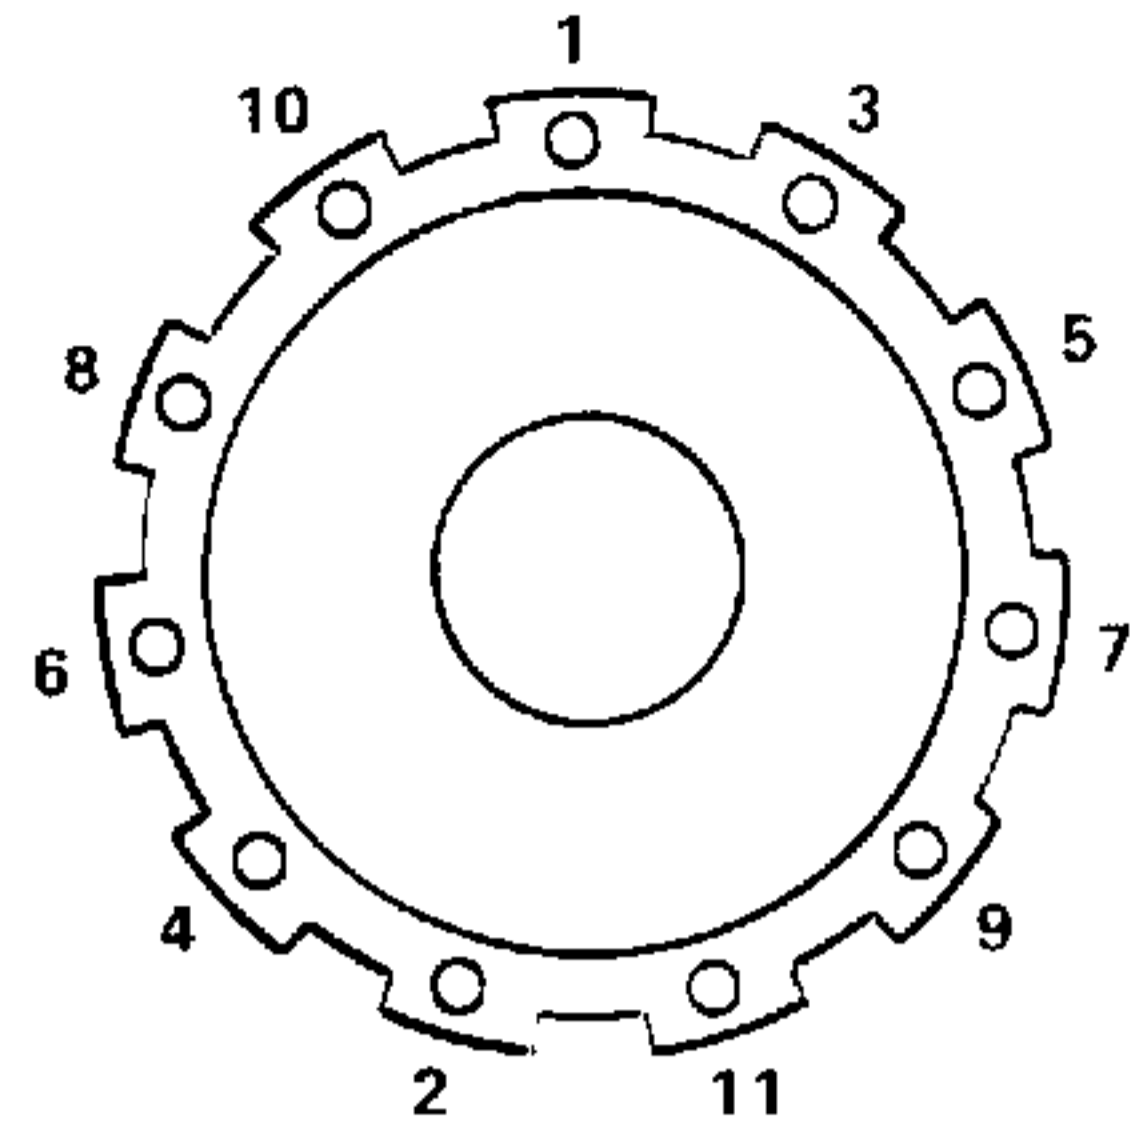

Figure 5-45. Cap Screw Tightening Sequence.
- (3) Reverse metering ring (13) and metering package as a unit on flat surface. Push down on metering package until drive plate (20) is on flat surface. Be sure screws (15) are loose enough to allow commutator and drive plate to align themselves concentrically in metering ring bore. Gradually tighten eleven screws (15) following sequence shown in Figure 5-45 at least twice until a final torque of 11-13 in-lbs (1.24 to 1.47 N·m) is reached. Remove metering package and shims from metering ring. Discard shims.